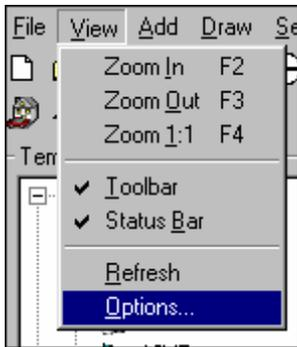
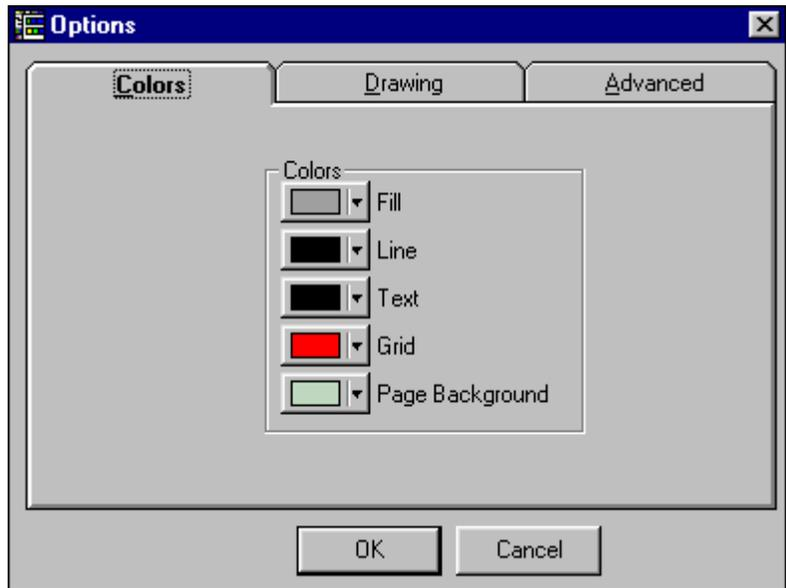
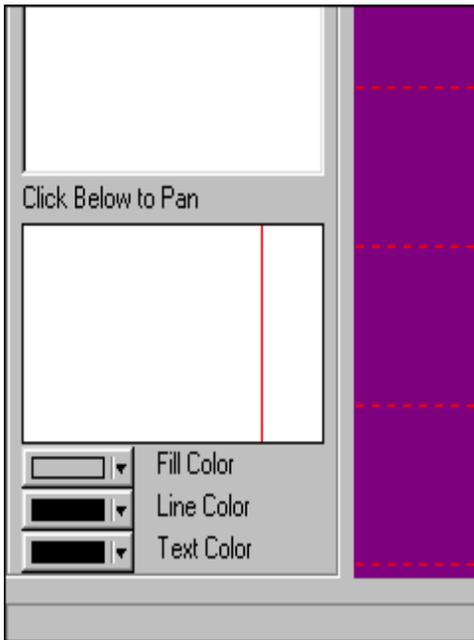
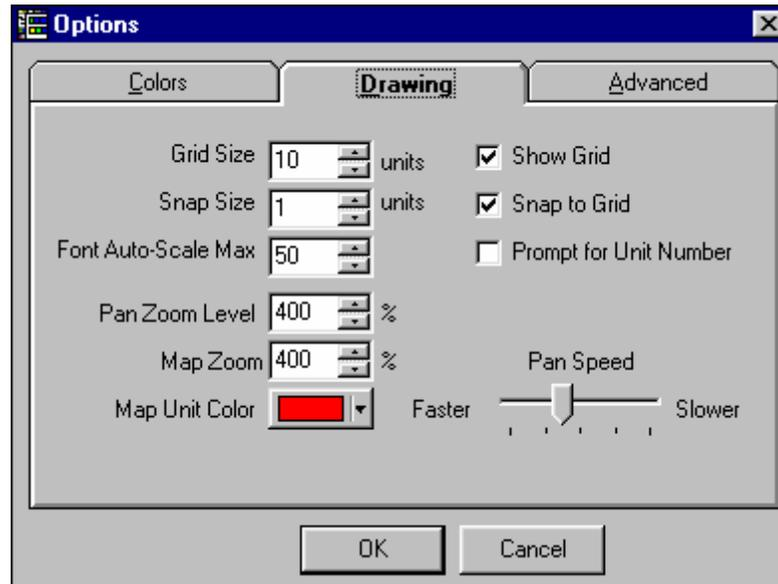

Figure 24a
Figure 24b
Figure 25
Figure 31
'Background Color' can be changed to suit your preference. To change the background color of the work area, select 'View > Options' (Figure 24a), and select the 'Colors' tab after the 'Option box' appears (Figure 24b). Select the 'Page Background' button and a color grid appears. Click on the desired color. The color on the 'Page Background' button will change to the color selected. Click the 'OK' button to accept the choice.
To change the 'Grid Line Color' on the work area, select 'View>Options' (Figure 24a), and select the 'Colors' tab after the 'Option box' appears (Figure 24b). Select the 'Grid' button and a color grid appears (Figure 24b). Click on the desired color. The color on the 'Grid' button will change to the color selected. Click the 'OK' button to accept the choice.
'Fill color' is the background of the units. There are two methods to change the fill color. The first method is to select 'View > Options' (Figure 24a), and select the 'Colors' tab after the 'Option box' appears (Figure 24b). Select the 'Fill' button and a color grid appears. Click on the desired color. The color on the 'Grid' button will change to the color selected. Click the 'OK' button to accept the choice. The second method is to select the 'Fill Color' button in the lower left corner of the Site Builder window (Figure 25) and a color grid appears. Click on the desired color, and the color on the 'Fill Color' button will change to the color selected. Click the 'OK' button to accept the choice.
'Line color' is the color of the borderlines of the units. There are two methods to change the line color. The first method is to select 'View>Options' (Figure 24a), and select the 'Colors' tab after the 'Option box' appears (Figure 24b). Select the 'Line' button and a color grid appears. Click on the desired color. The color on the 'Grid' button will change to the color selected. Click the 'OK' button to accept the choice. The second method is to select the 'Line Color' button in the lower left corner of the Site Builder window (Figure 25) and a color grid appears. Click on the desired color, and the color on the 'Line color' button will change to the color selected. Click the 'OK' button to accept the choice.
'Text Color' is the color of the text that will show up within a unit when it is numbered or labeled. There are two methods to change the text color. The first method is to select 'View>Options' (Figure 24a), and select the 'Colors' tab after the 'Option box' appears (Figure 24b). Select the 'Text' button and a color grid appears. Click on the desired color. The color on the 'Text' button will change to the color selected. Click the 'OK' button to accept the choice. The second method is to select the 'Text Color' button in the lower left corner of the Site Builder window (Figure 25) and a color grid appears. Click on the desired color, and the color on the 'Text Color' button will change to the color selected. Click the 'OK' button to accept the choice.
'Drawing Tab' is the location to change the grid and snap size, Panning and Map Zoom level, and Prompt for Unit Number. To pull up the 'Drawing Tab', go to View, then to Option (Figure 24a). The Option window will appear (Figure 31). 'Drawing Tab' is the location to turn on or off 'Show Grid', 'Snap to Grid' and 'Prompt for Unit Number'.
- Now select Zoom level 1:1 on the tool bar (Figure 31).